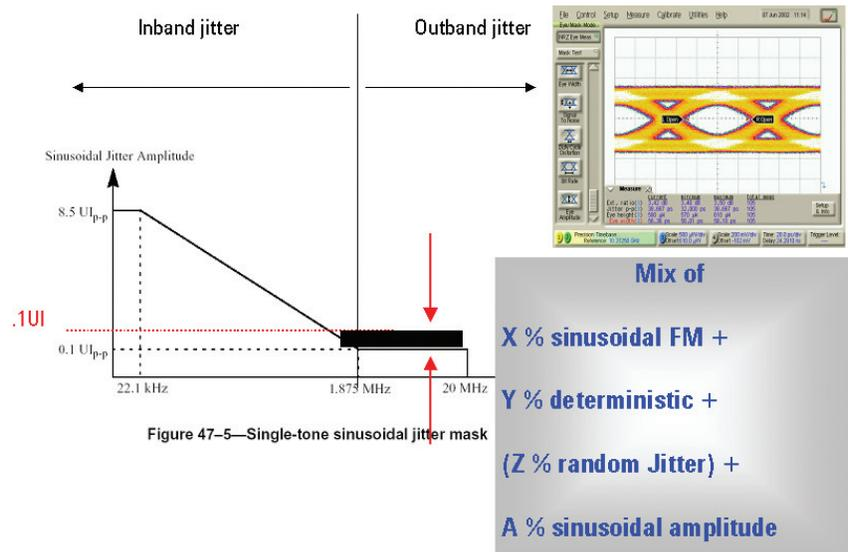

Figure 7: Stressed Eye
E/O converter testing in particular requires stressed eye including Sinusoidal Interference (SI), as Figure 7 demonstrates. This adds a sinusoidal signal to the already discussed edge displacement for further horizontal (amplitude wise) eye closure. This is performed with high frequency (<1GHz typically). To simplify the setup, the random part of the FM components can be omitted as the sinusoidal amplitude is already asynchronous.